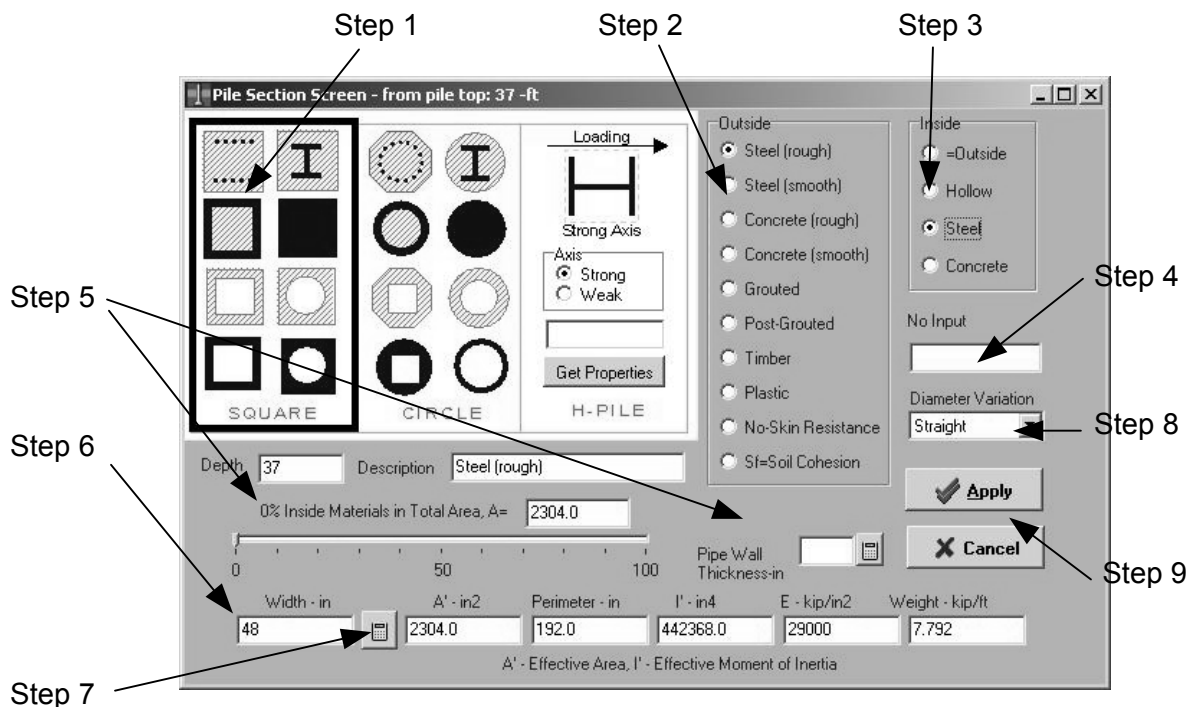

Figure 4-5. Pile Section Screen
The table on the Pile Properties Page (Figure 4-4) allows you to choose the pile property. Ten different sections can be defined along the length of the pile. If the pile has a uniform section, you only need to input the first row. You should input all the data through the **Pile Section** screen shown in Figure 4-5 by clicking on the buttons of the **Pile Property Table** Figure 4-4.
| Pile Data Input | Press the button in this column to select details from the Pile Section screen (Figure 4-5). You should input all the pile property data on the Pile Section screen instead of on the Pile Properties table. |
The tip section screen is different from the overall section screen as shown in Figure 4-5. A tip section uses total area,  $A$ , instead of the effective Area,  $A'$ . For more details, refer to “Effective Area and Total Area” section of this chapter. For tip section input, user can choice to input their own ultimate bearing pressure (capacity) or let the program generate its' own. If the user defines their own ultimate capacity, the program will directly use the value for analysis without modification in the calculation.
**If you already have data in Pile Property Table (Fig 4-4) and do not want data to be overwritten by Pile Section Screen (Fig 4-5), then you should click on [Cancel]**